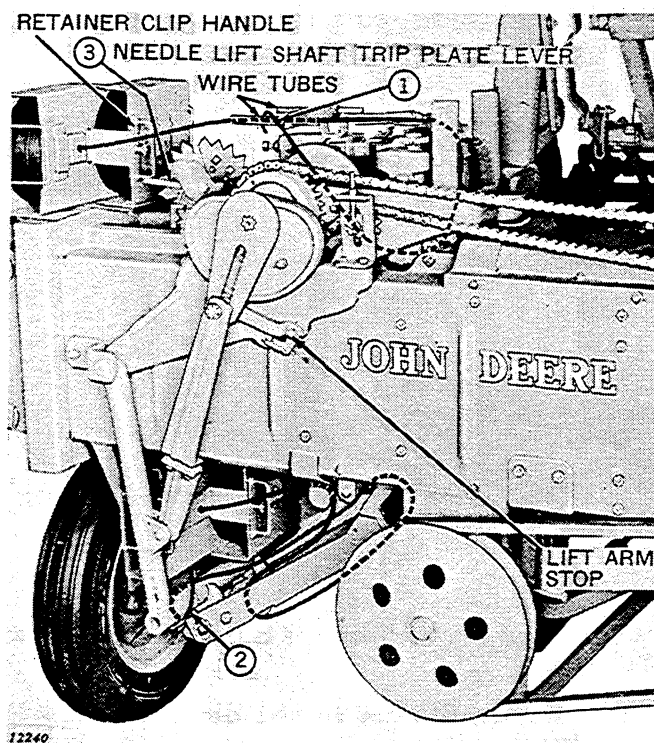

Figure 19
1. (Figure 19) Thread top wire through the wire tubes and between the pulley and the top of the pulley bracket, then down between the bottom pulley and twist control bracket, then through the twister pinion and pull enough wire so it can be hooked around wire tubes on top of baler.
2. (Figure 19) Thread bottom wire around pulley in pulley bracket on bottom of bale case, then around large pulley near lower end of needle, then around small pulley in right-hand top of needle and up over left-hand pulley, and pull enough wire so it can be looped around needle frame (2).